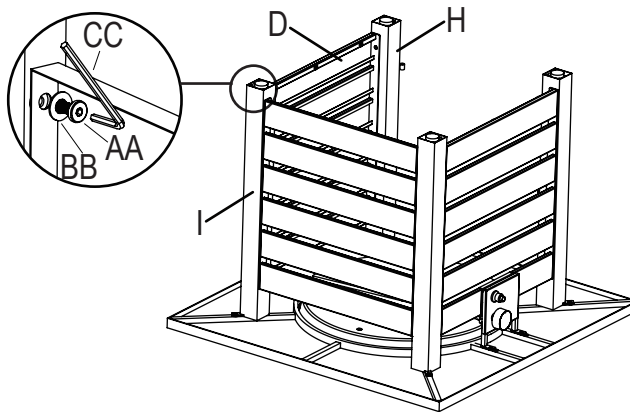

Figure 5
5. Attach back panel (D) to back-left leg (H) and back-right leg (I) with bolts (AA) and washer (BB) using hex screw driver (CC), (see Figure 5).